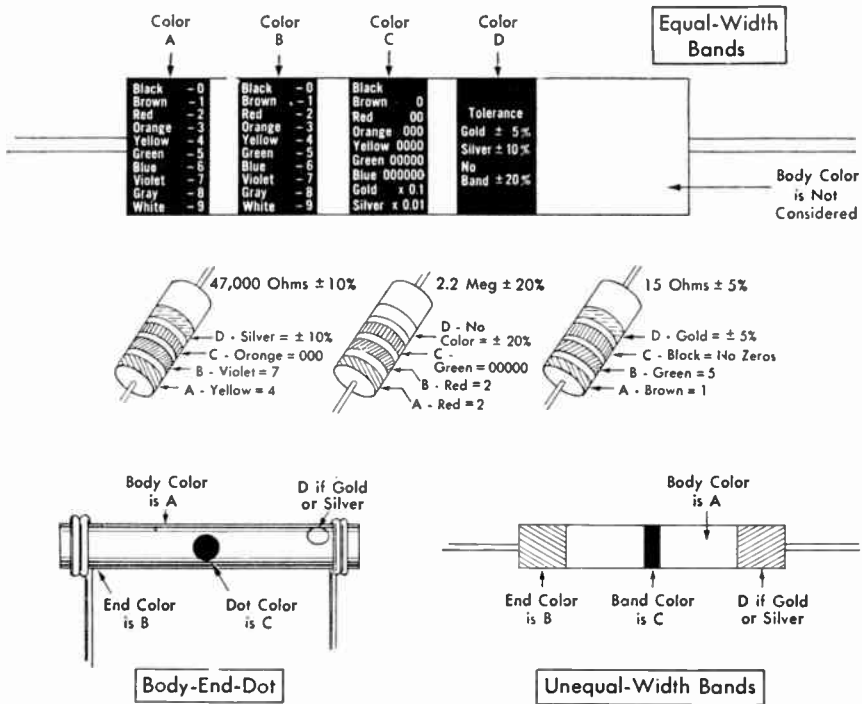

Fig. 9. Color code for carbon resistors, with three examples of reading equal-width bands
of color. In both methods, the three colors are read in a definite order, and numbers are substituted for colors according to the code in Fig. 9 to get the resistance of the resistor.
The body-end-dot method of color coding is occasionally found on resistors having in-line leads, as at the lower right in Fig. 9. The method of reading these is the same as for side-lead resistors.
**Missing Colors.** If one of the three color markings on a resistor appears to be missing, the missing color may be the same as the body color of the resistor. Therefore, try reading the body color when there is no other color in a location where one should be. The perfect example of this is an all-red resistor having leads coming out at right angles as in Fig. 9. Here body color A is red for 2, end color B is red for 2, and dot color C is red for 00, so the value is 2,200 ohms.
Locations of gold and silver tolerance markings on carbon resistors are shown in Fig. 9, but you will have no trouble spotting these because they are always gold or silver for resistors.